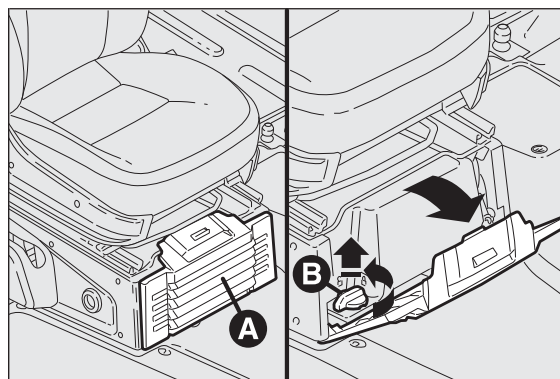

fig. 95
- ☐ Open the flap A fig. 95 and remove it as illustrated;